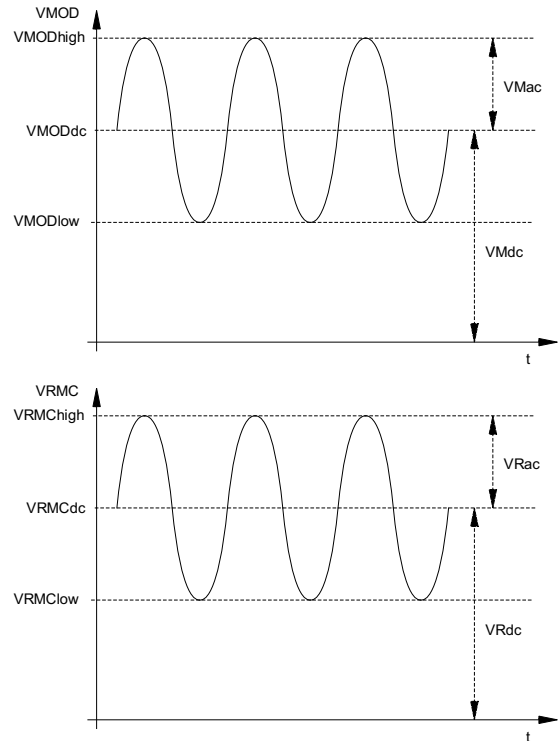

Figure 17: Example of modulation voltages
2. Set a reference value of voltage in V(MOD). For example a low voltage or a DC voltage (VMODdc) in a sinus signal as shown in figure 17